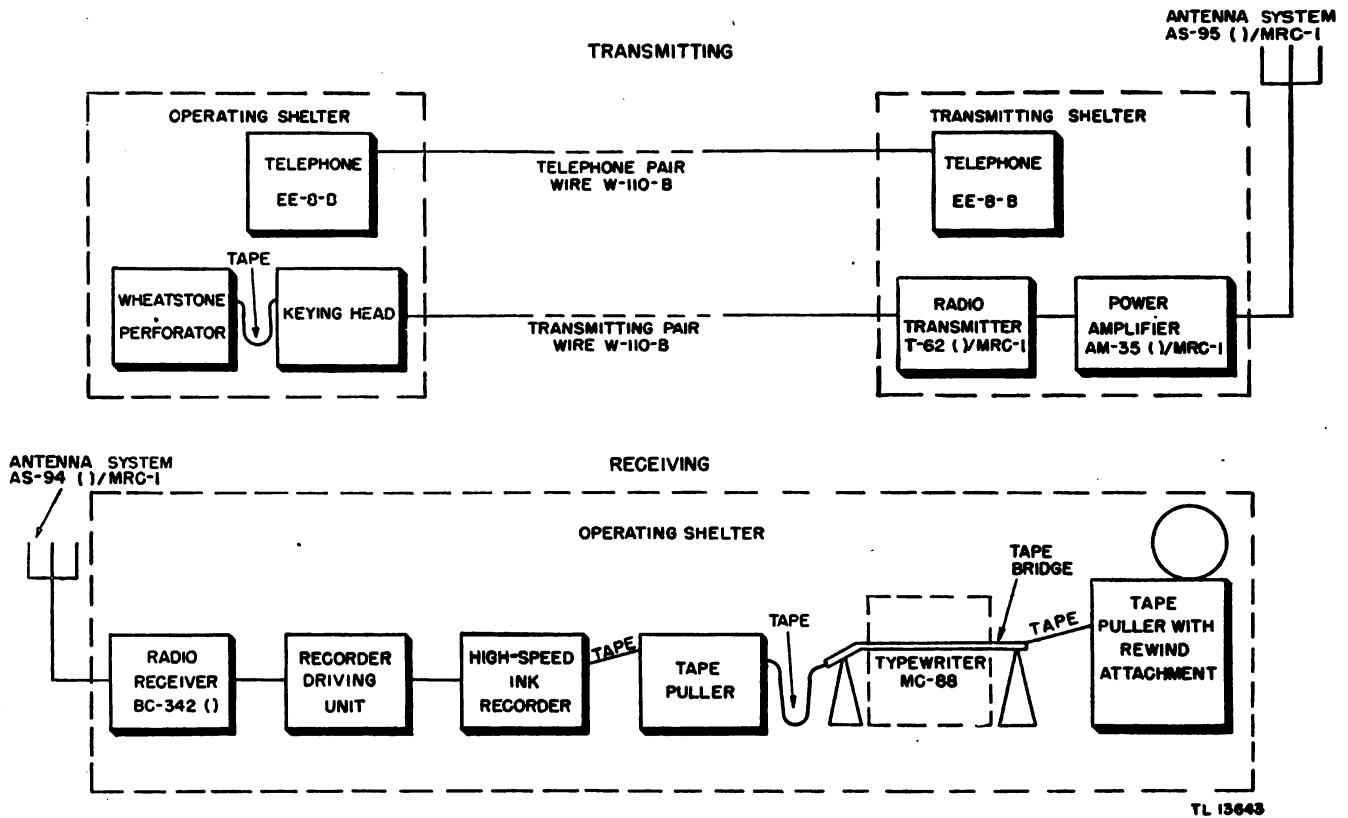

Figure 3. Radio Set AN/MRC-1—simplified block diagram.
a. GENERAL. Radio Set AN/MRC-1 consists of a modified Radio Set SCR-399-(), a 2-kw (kilowatt) amplifier, and a high-speed Boehme operating station. The system is housed in two shelters, a transmitting and an operating shelter. The transmitting shelter contains the transmitter, amplifier, and one a-m (amplitude-modulated) superheterodyne receiver. The operating shelter contains a complete high-speed Boehme station as described in *c* below. The set is designed for duplex (transmitting and receiving simultaneously on different frequencies) operation but may be used to transmit and receive on the same channel. A block diagram of the entire system is shown in figure 3. The functions of certain supplementary circuits are described in the following subparagraphs.